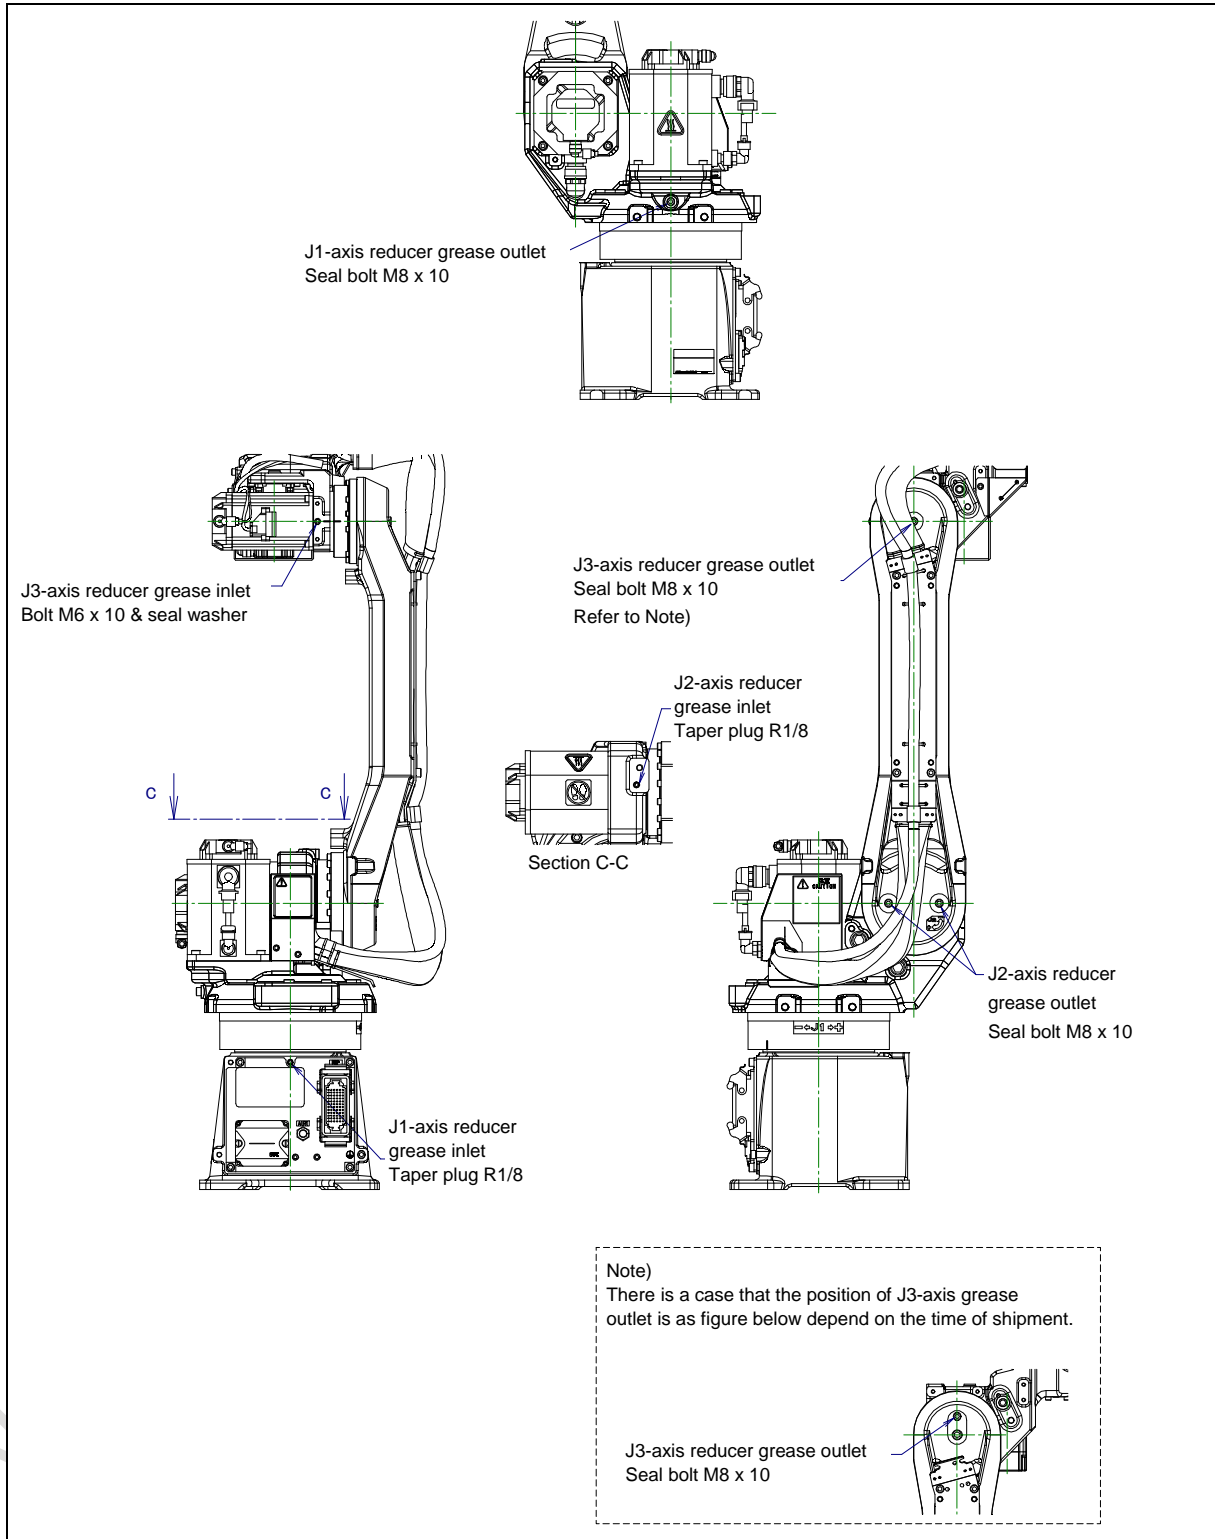

Fig. 3.2.1 (a) Greasing points of J1 to J3-axis reducer
- 3 Remove the seal bolt or taper plug from grease outlet. (Fig. 3.2.1 (a))